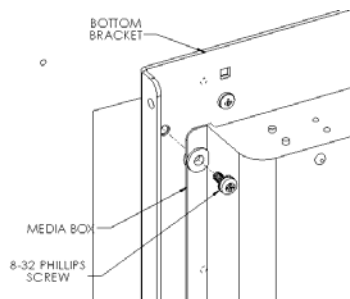
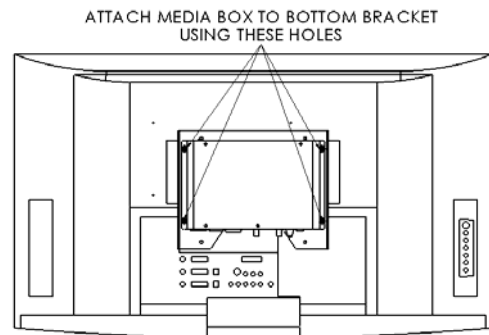

Figure 6
Figure 7
- Attach media box to bottom bracket using the 8-32 Phillips screws (see Figure 6 & Figure 7). Do not over tighten screws.